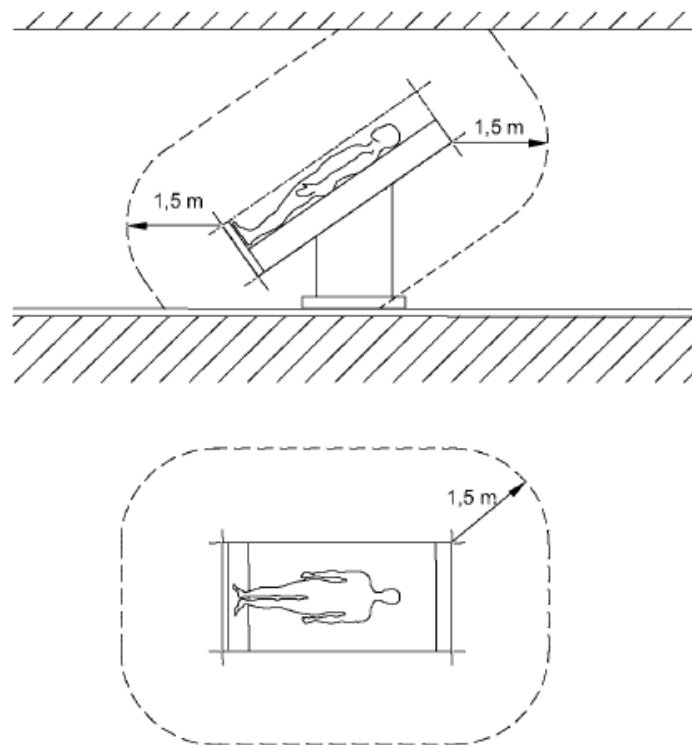

Fig. 1 Minimum extent of the PATIENT ENVIRONMENT
- Using an Allen tool, remove the 2 M4 x 16 screws ① and release the side tabs ③ from the side panel ②, as shown in figure 1.